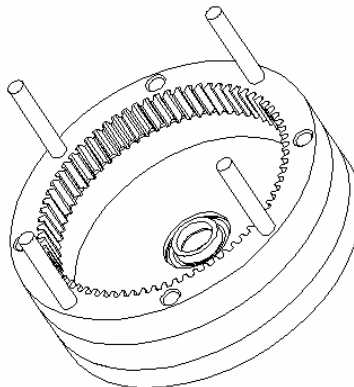
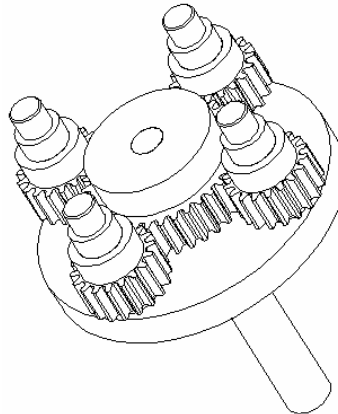
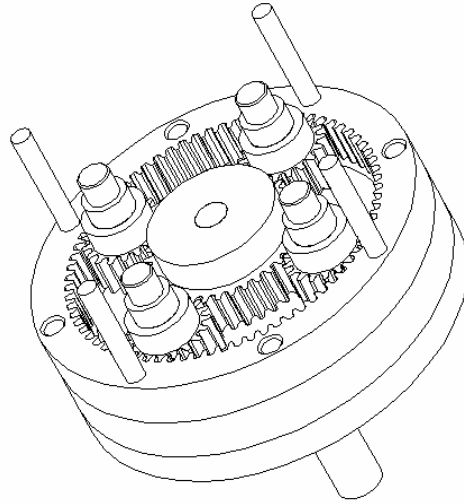

Figure 3
Figure 5
Figure 6
5. Place ring gear on top of Ring Plate Ring #003 as shown in figure 3.
10. Insert the shaft until it is flush with the bottom of the sun gear and tighten setscrew with shaft in this position. Step 9 and 10 appear in Figure 5.
11. Place assembly shown in figure 5 inside rest of assembly shown in figure 3. You should obtain figure 6.